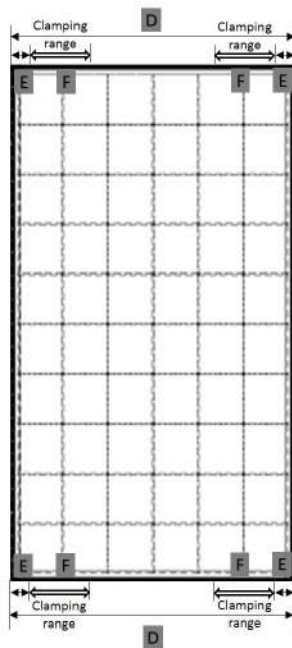

Figure 5: Short side clamping range on modules PVxxx-60MMJ / SPVxxx-60MMJ
- For mounting the supporting rails on the short side of the frame , slide bolts through the rail grooves next to the 4 clamps locations. The module may be clamped only in the permitted clamping range . For the exact locations refer to area F in *Figure 5* and *Table 3*.
- For mounting the module on the short side of the supporting of the frame, slide bolts through the rail grooves next to the 8 clamps locations. The module may be clamped only in the permitted clamping range. For the exact locations refer to area F in Figure 5 and Table 3.